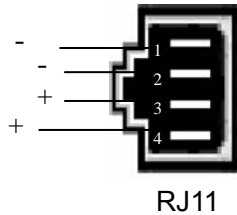

Figure 2-10 Polarity for Connection of Microphone Module
**Notes:** We absolutely advise against connecting the microphone module to phone lines from the PBX terminal, or it could be damaged. Pay attention to the pin polarity shown in Figure 2-10 below while connecting lines to the modules.